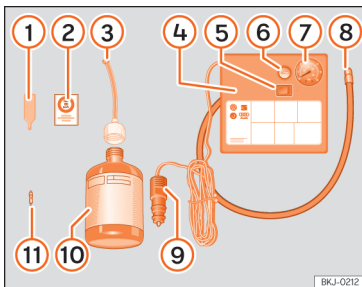

Fig. 251 Standard display: contents of the anti-puncture kit.
The anti-puncture kit is located underneath the floor covering in the luggage compartment. Includes the following components » **Fig. 251**:
- Unscrew the tyre valve cap and insert. Use the device » **Fig. 251** ① to remove the valve cap. Place it on a clean surface.
- Shake the tyre sealant bottle vigorously » **Fig. 251** ⑩.
- Screw the tyre inflation hose » **Fig. 251** ③ into the tyre sealant bottle. The bottle's seal will break automatically.
- Remove the filler cap » **Fig. 251** ③ and screw the open end of the tube into the tyre valve.
- Replace the howitzer with the device » **Fig. 251** ① onto the tyre valve.
- Screw the tyre inflation tube of the compressor » **Fig. 251** ⑧ on the tyre valve.
- Check that the air evacuation screw is closed » **Fig. 251** ⑥.
- Attach the connector » **Fig. 251** ⑨ to the vehicle's 12 volt power outlet » **page 232**.
- Switch on the air compressor with ON/OFF switch » **Fig. 251** ⑤.
- Attach the sticker >>> Fig. 251 ② to the instrument panel display, within the driver's field of vision.
Screw in the inflator tube >>> Fig. 251 ⑧ again and check the pressure on the gauge ⑦.